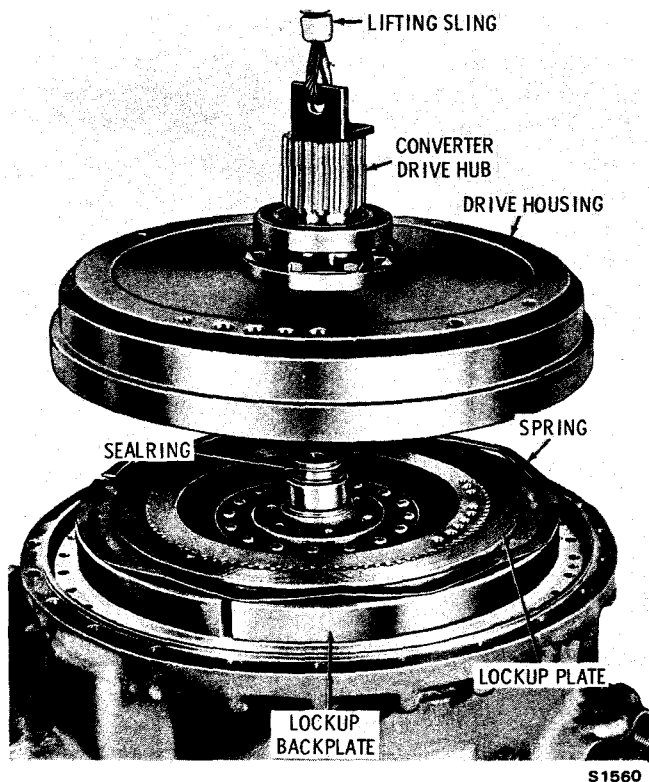

Fig. 5-15. Removing converter drive housing (remote mount)
(6) Attach one strand of the lifting sling (fig. 5-15) to the torque converter drive hub, and remove the torque converter drive housing assembly. Refer to paragraph 6-12d and e for rebuild of the drive housing for transmissions having the arrangement shown in B, foldout 5.
(7) On CLT and CLBT models, remove the spring (used only on some models—fig. 5-15). Remove the lockup clutch plate and lockup clutch back plate. Remove the hook-type sealing from the turbine shaft.